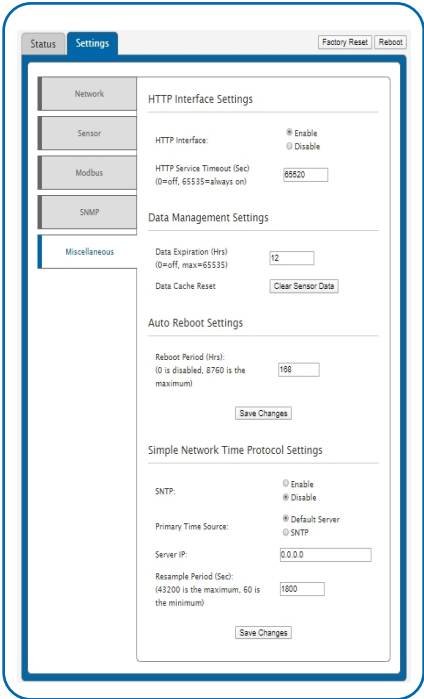

Figure 25
**HTTP Service Timeout:** This is a security setting for allowing this web interface to be active. The default is 5 minutes. Setting the field to 0 will turn off the local interface, ending your session. See Figure 25.